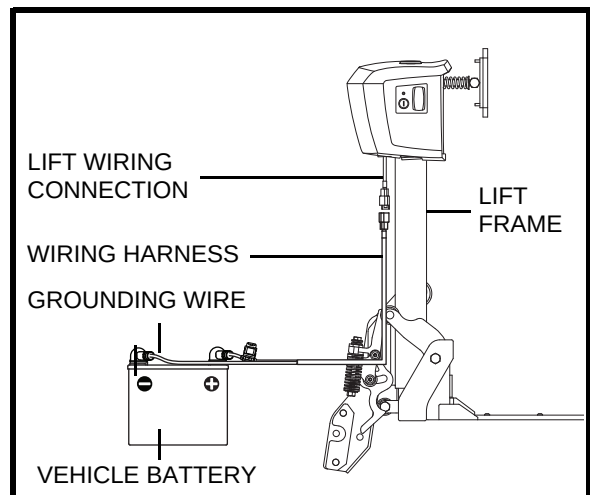

Figure 11. Wiring Harness Installation
1. Route the lift system wiring harness (starting at the lift) through the interior of the vehicle until you reach the vehicle battery. **See figure 11.** You will typically find pass-through points at the rear lighting assemblies, which will enable you to route the cable through the trunk and under the back seat.